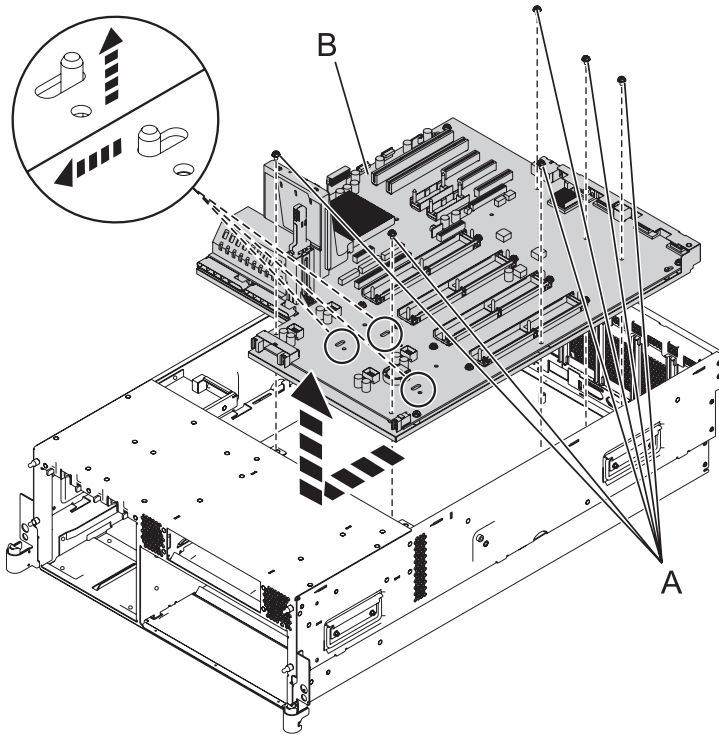

Figure 9. Removing the system backplane
- a. Remove the 6 screws (**A**) that are securing the system backplane to the system chassis. See Figure 9 on page 14.